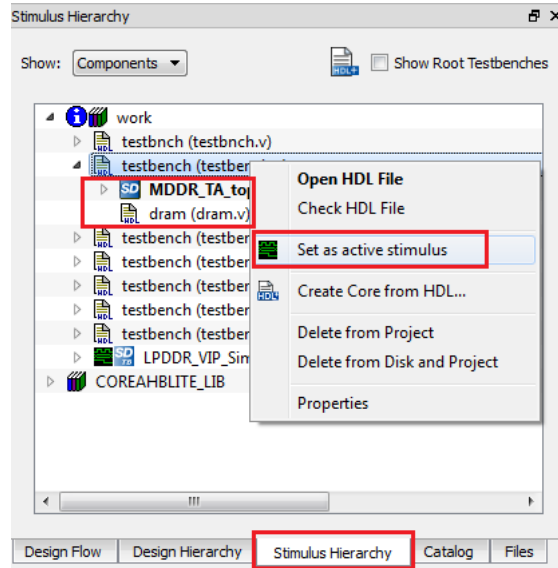

Figure 14 • Stimulus Settings
- Set the testbench in which LPDDR memory model is instantiated as active stimulus. Figure 14 shows the settings under Stimulus Hierarchy.